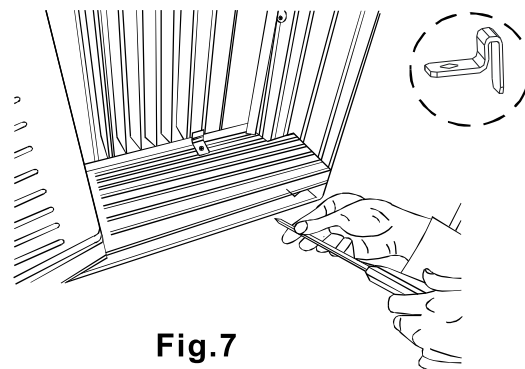

Fig.7
- A. Place the frame lock between the frame extensions and the window sill as shown (Fig.7). Drive $3/4"$ (19mm) or $1/2"$ (12.7mm) locking screws through the frame lock and into the sill.